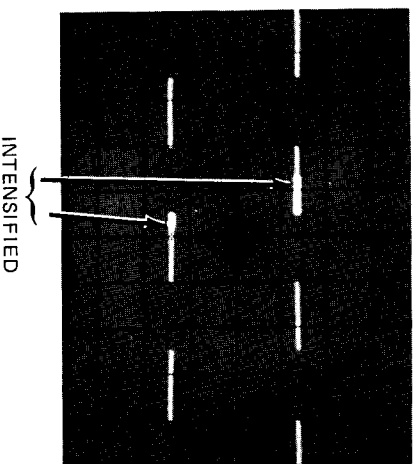

Figure 5a. Normal Display with Intensified Area
4. Adjust time interval STOP **18** until intensified portion of trace is over display segment you wish to investigate (figure 5a).